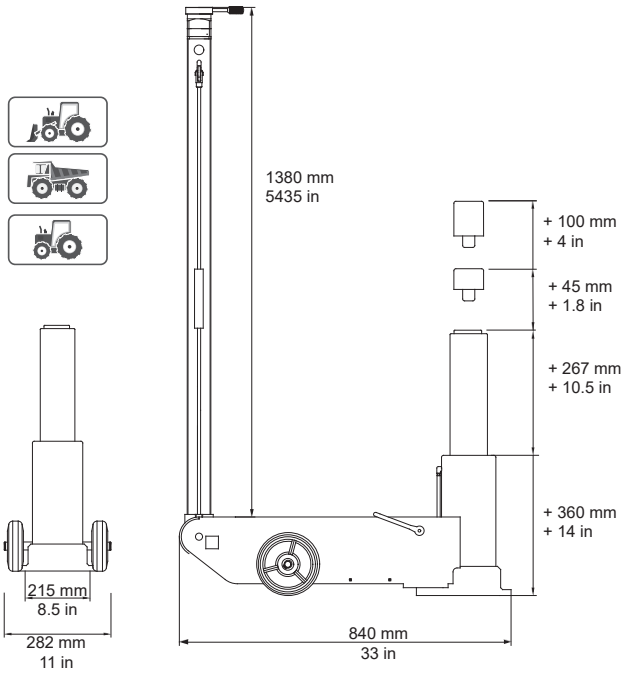

Fig. 08
1. Technical Data (See figures 08)